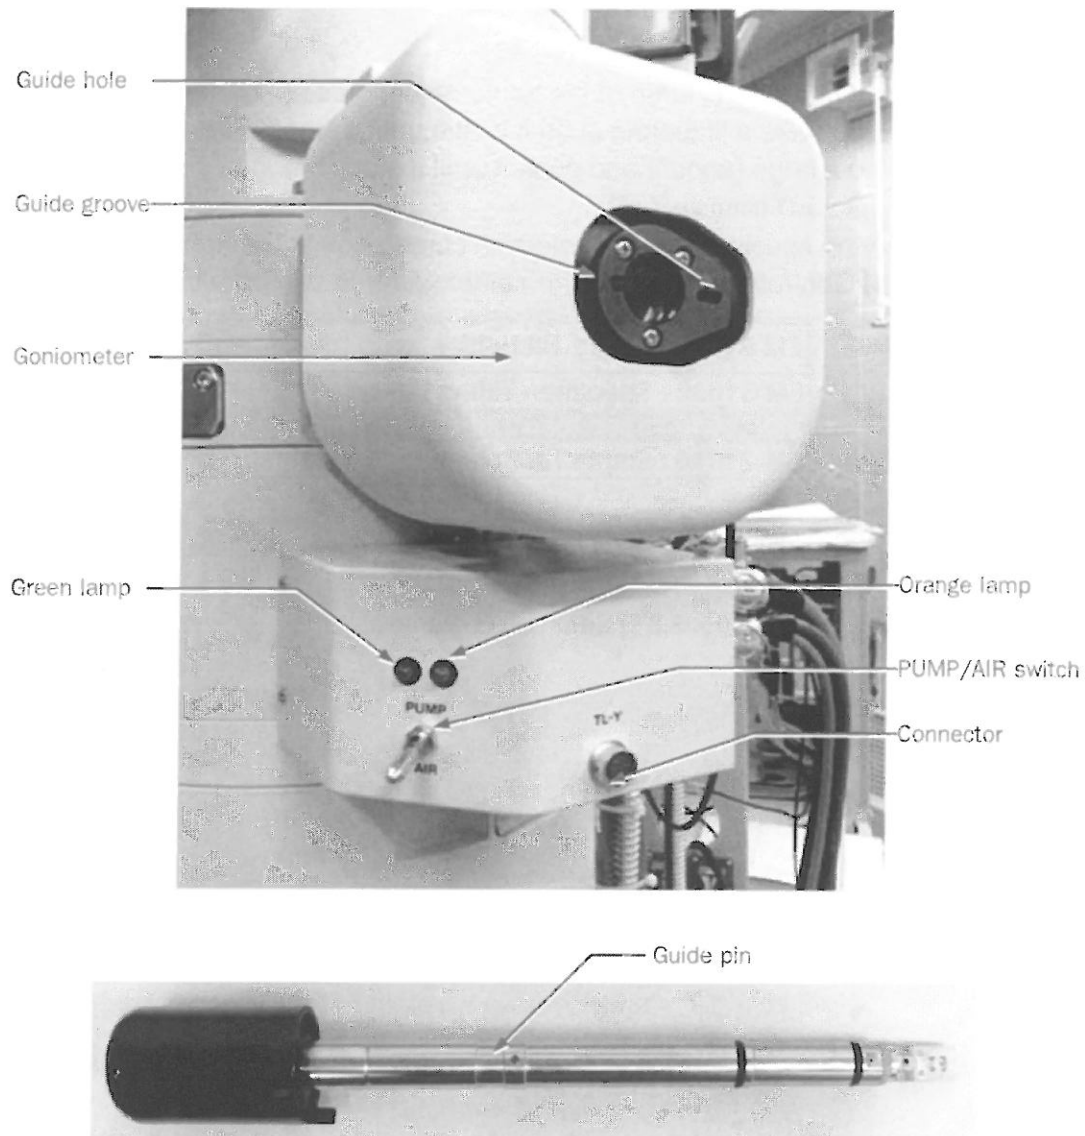

Fig. 5.7 Inserting the specimen holder in the column
3. Align the specimen holder guide pin with the guide groove, push the holder into the goniometer until it stops without rotating and set the goniometer PUMP/AIR switch to PUMP (Fig. 5.7). The orange LED lamp lights up and the evacuation of the goniometer starts.